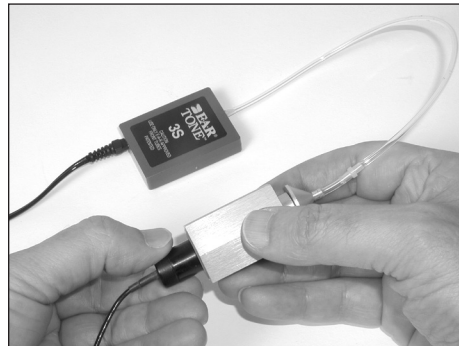

Figure C-8—Coupler microphone inserted into HA-2 coupler
3. Insert coupler microphone into the HA-2 coupler. See Figure C-8.